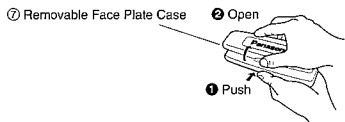

Fig. 6
- As shown in Fig. 6, gently push the lower side of the case and open its cover. Keep the removable face plate in the case. Then you can safely take the plate with you.